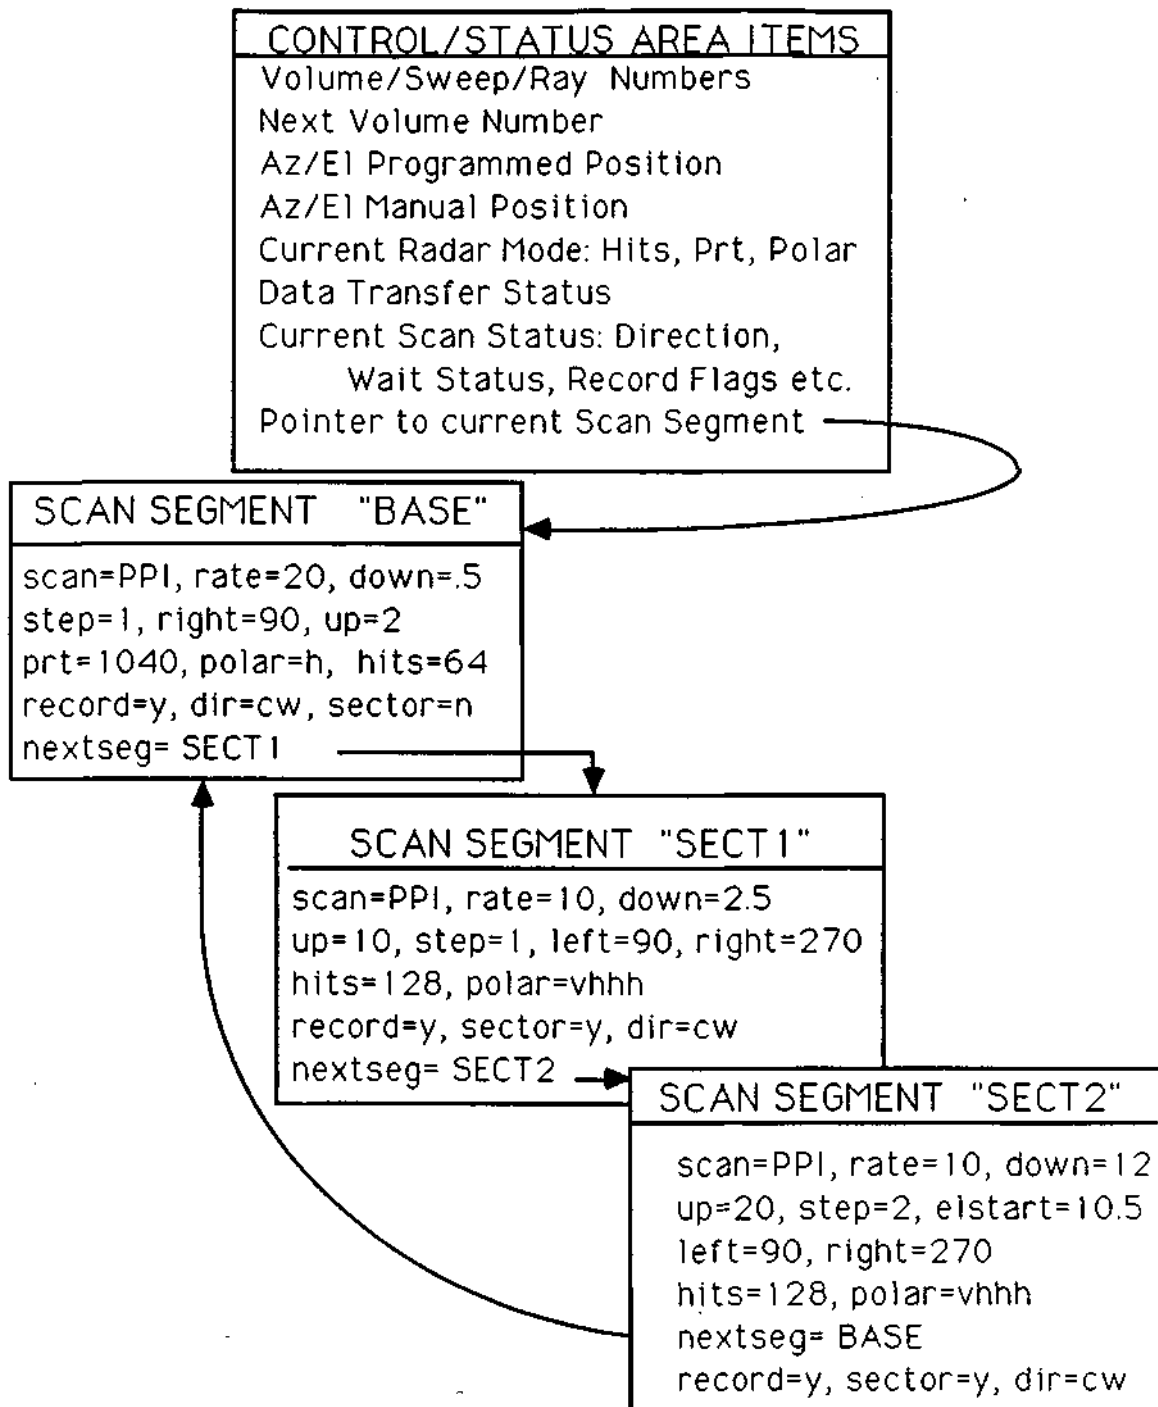

Figure 3. Control Structures Example
Scan segments are assigned names which may be chosen to reflect their purpose. This example starts with the segment named "BASE", which defines two surveillance sweeps at low elevation angles and a high azimuth scan rate. At that point, the operator wants the scan rate to be reduced for improved ZDR measurements. This also requires (in this hypothetical case) that a sector scan be used to keep the volume scan time under 5 minutes. To accomplish all these changes, a new scan segment called "SECT1" is introduced and linked to follow the two "BASE" angle sweeps. Furthermore, elevation sweeps up to 20 degrees must be recorded in order to "top" nearby echos. To accomplish this and still meet the 5 minute scan time requirement, the elevation step angle needs to be increased when the elevation goes above 10 degrees. This requires the addition of another scan segment which is called "SECT2". Note that since "SECT2" is the last segment of the volume scan, the ENDEVOL flag has been set to cause the housekeeping data to be updated accordingly. Figure 3 illustrates an example of how these scan segments may be linked together to form a typical volume scan.
2.5.1. Command file: The following commands would define the scan segments outlined in figure 3. (Comments in right-hand column would not be entered)